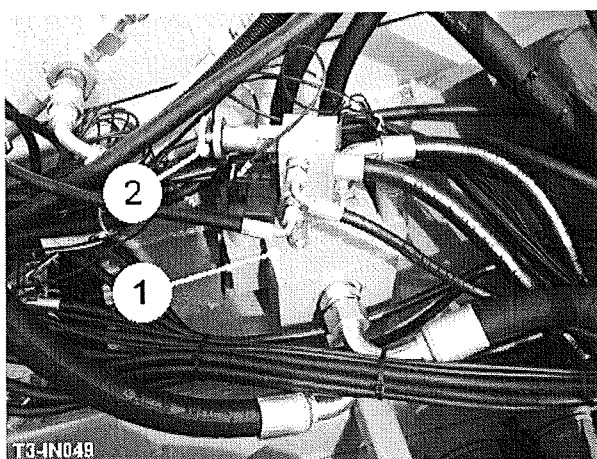

Fig 21
The axle drive can be set to forward , neutral or reverse  from the yellow rocker switch on the slave box or from the service terminal. When forward or reverse is selected, the directional control valve (item 1, fig 21) demands oil flow from the pump to provide the necessary flow required to match the harvester wheel speed to the tractor speed. When the flow matches, the pressure compensator within the pump maintains a constant pressure in the hydraulic system which is set on the external pressure control valve (item 2, fig 21) from the service terminal. This valve allows a low operating pressure to be set which is adjustable to give the required drive assistance for normal harvesting. Forward speed can be matched to the tractor by using the speed adjust on the service terminal. When the high pressure button  is pressed, the system operating pressure is increased to the setting of the main compensator within the pump.